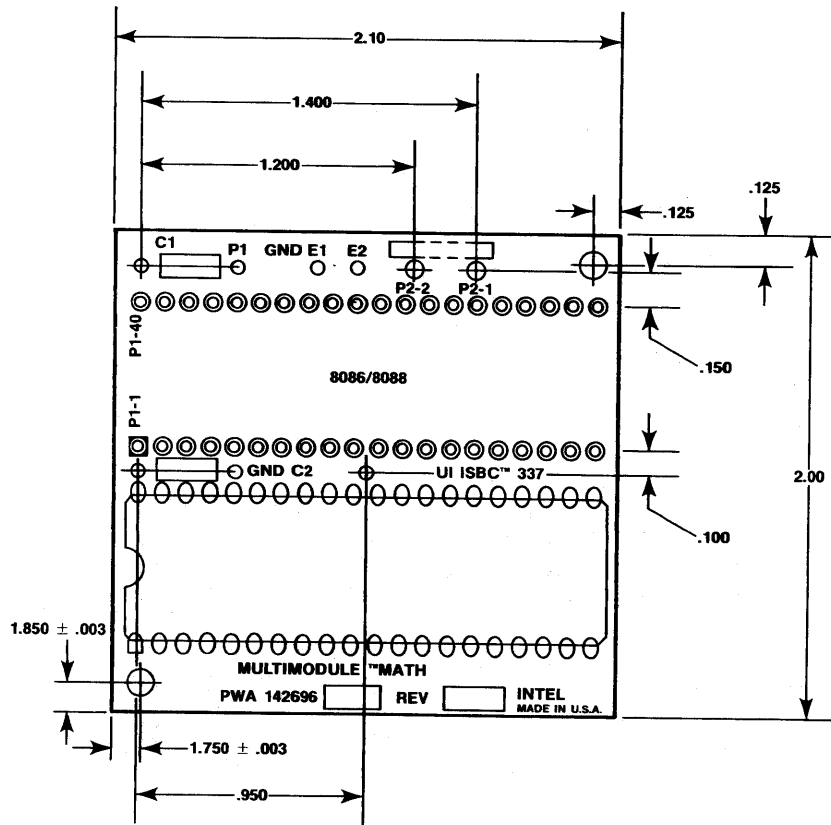
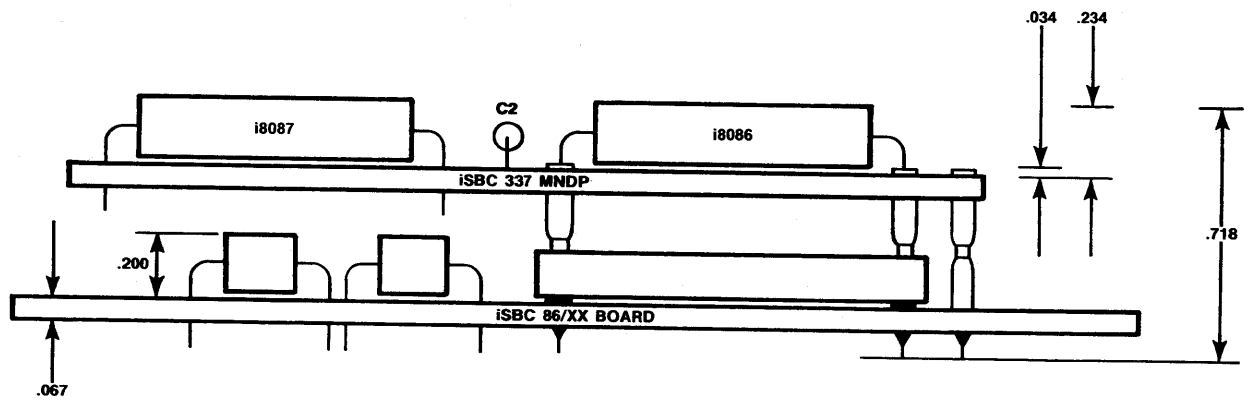

Figure 2-1. Board Dimensions (Inches)
Figure 2-2. Mounting Clearances (Inches)
Figure 2-1 shows the physical dimensions and figure 2-2 shows clearances for an iSBC 337 Multimodule NDP Board mounted on a host iSBC microcomputer. The dimensions shown in figure 2-2 are maximum heights.
3. After ensuring the seating is firm, insert the previously removed processor into the socket pins of the iSBC 337 Multimodule NDP Board. (Refer to figure 2-1.)